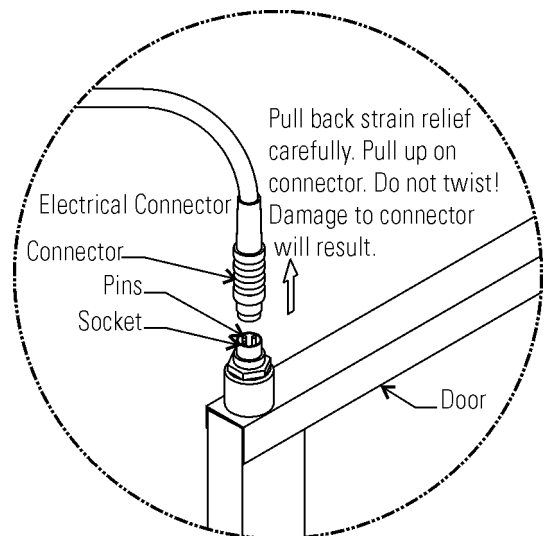

Figure 5-12. Connector
6. Refer to Figure 5-12.
10. The shoulder of the bushing must be on top as shown in Illustration B. Install the black plastic bushing into the hinge just removed. See Figure 5-12.